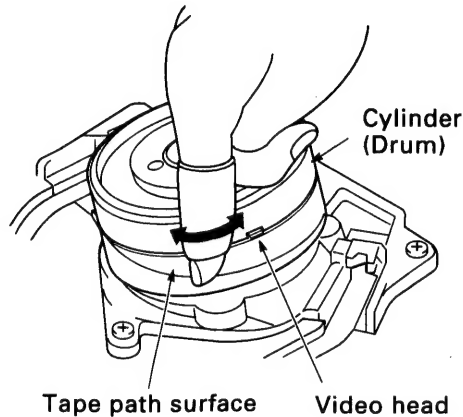

Fig. 1-2-3
1. Cylinder (Drum) (See Fig.1-2-3)